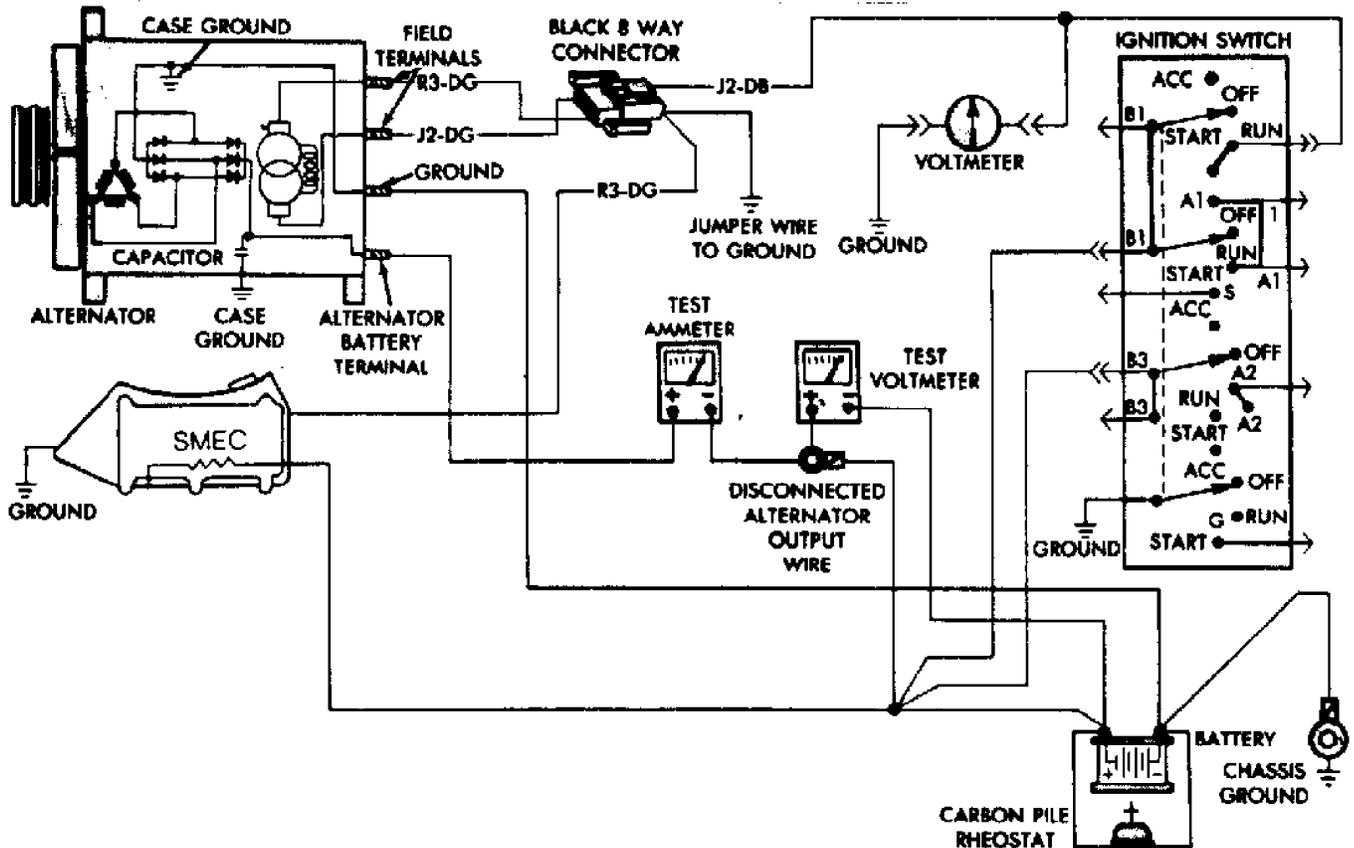

Fig. 3: Checking Bosch 40/90 Alternator Current Output Resistance
2) Before starting test, ensure vehicle has a fully charged battery. Turn ignition off. Disconnect negative battery cable. See Fig. 3. Disconnect alternator output wire from alternator output terminal.